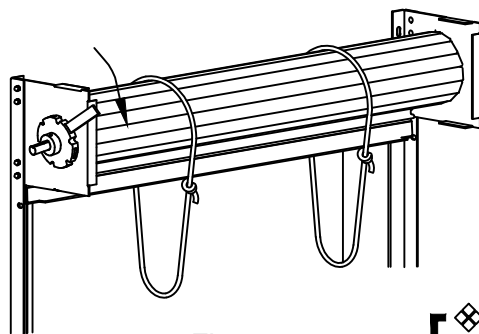

Fig. 15
a. When using a tension bar, begin to give tension, one or two turns will begin to roll the curtain onto the pipe assembly. NOTE: As the curtain rolls on the pipe, tension is being released, repeat giving tension until the bottom bar of the curtain reaches approximately one (1) foot from the bottom of the brackets. As shown in Fig. 15. NOTE: Lift the drop arm in the engaged position, to lock the charge wheel, in between turns.